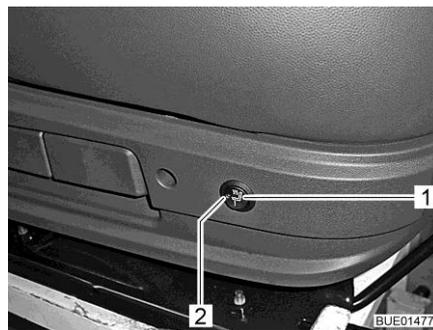

Fig. 20 Switch for seat heater
- Press the switch (Fig. 20,1) at the back on the left side of the seat console.
The LED (Fig. 20,2) comes on when the seat heater is in use.
- Set switch (Fig. 20,1) to the middle position. The LED goes out.